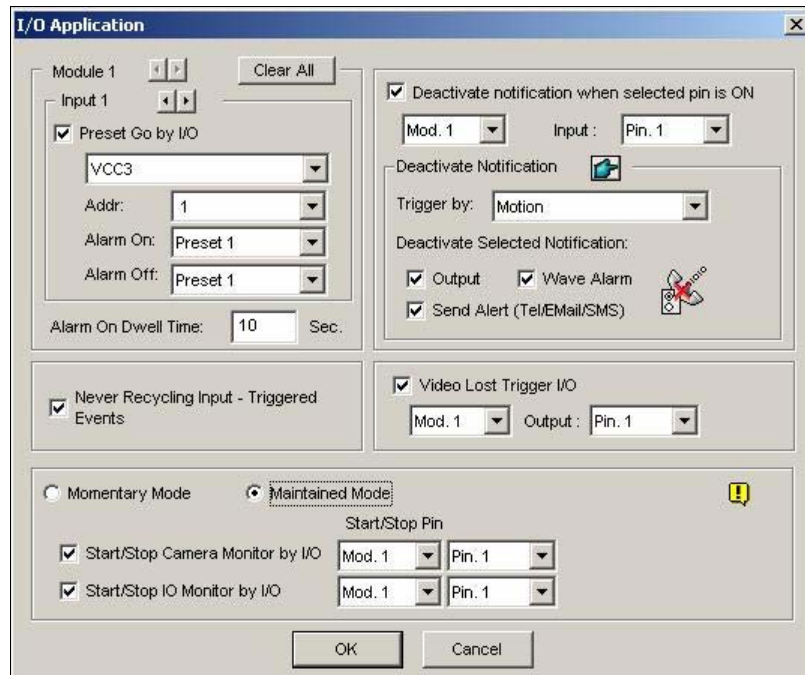

Figure 2-8 I/O Application
- Note:** The delay functions in **Invoke to Send Alerts** and **Output Module** allow you time to deactivate prior alert and output settings. To deactivate these settings, you may stop monitoring or enable the assigned input module set at “**Deactivate notification when selected pin ON**” in I/O Application window (Figure 2-8).
The option lets you instantly deactivate all the prior alarm and alert settings (Output, Wave Alarm, Send Alerts), when an assigned input module is triggered. Open the I/O Application window (Figure 2-8), and find the following section.